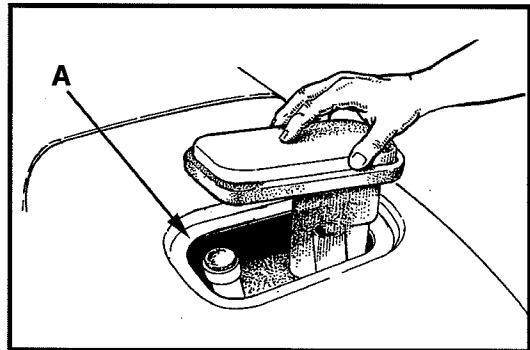

Figure 1
2. Make sure the recovery tank lid is on correctly. See figure 1.
3. Make sure the Screen filter over the vacuum motor is clean and in position. See figure 1 (a)
CAUTION: Make sure water or solution does not enter the opening for the vacuum motor. See figure 1, page 15.